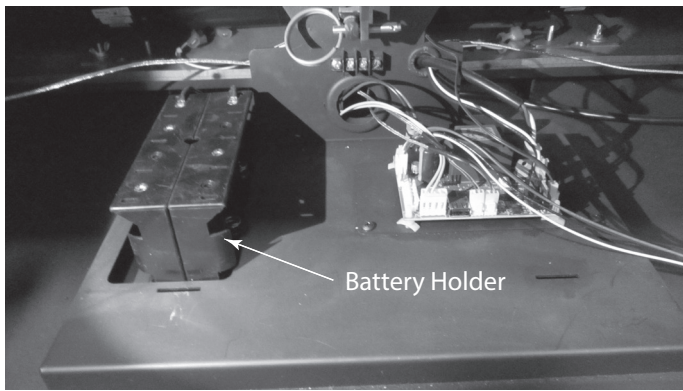

Figure 3.19 Install Batteries
3. Install the batteries. See Figure 3.19